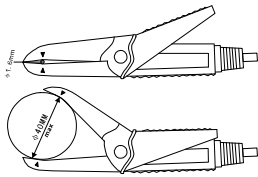

Figure-2
6.1.2.The detected wire should be clamped at the mark “▼” (Shown in Figure-2)